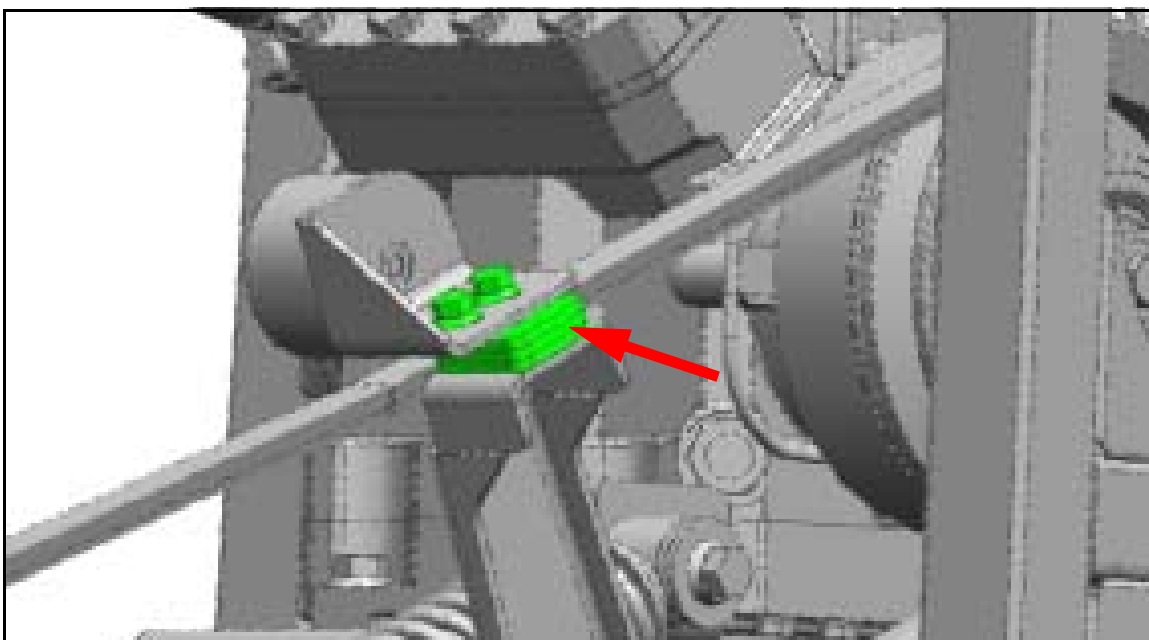

Figure 34. Addition of shim(s) to achieve a 3/8 inch belt deflection.
73. Remove the capscrew, p/n 19-01-1570 and lock nut, 19-03-0535 mounting the idler pulley to the snubber bracket. Orient and position the required quantity of shims, p/n 08-27-1324, between the idler pulley bracket and the snubber bracket (refer to Figure 34).